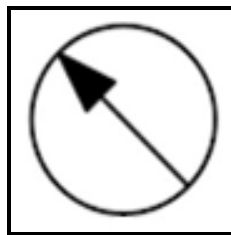

FIGURE 4.14
4.14 Identify the hydraulic symbol shown in FIGURE 4.14 below: